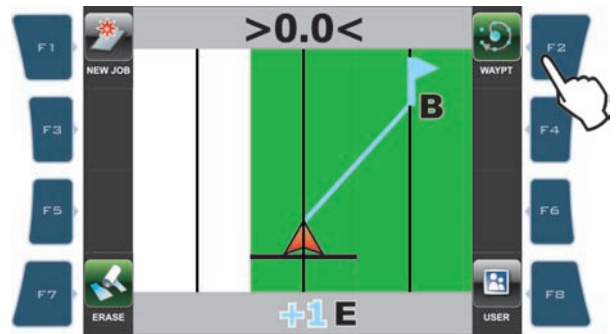

Fig. 284
- A light blue line connecting the middle position to the flag shows the trajectory to be followed to get closer to first marked point (**B** in Fig. 284).
- The display shows in light blue the number of tracks to be crossed before reaching point (**E** in Fig. 284):